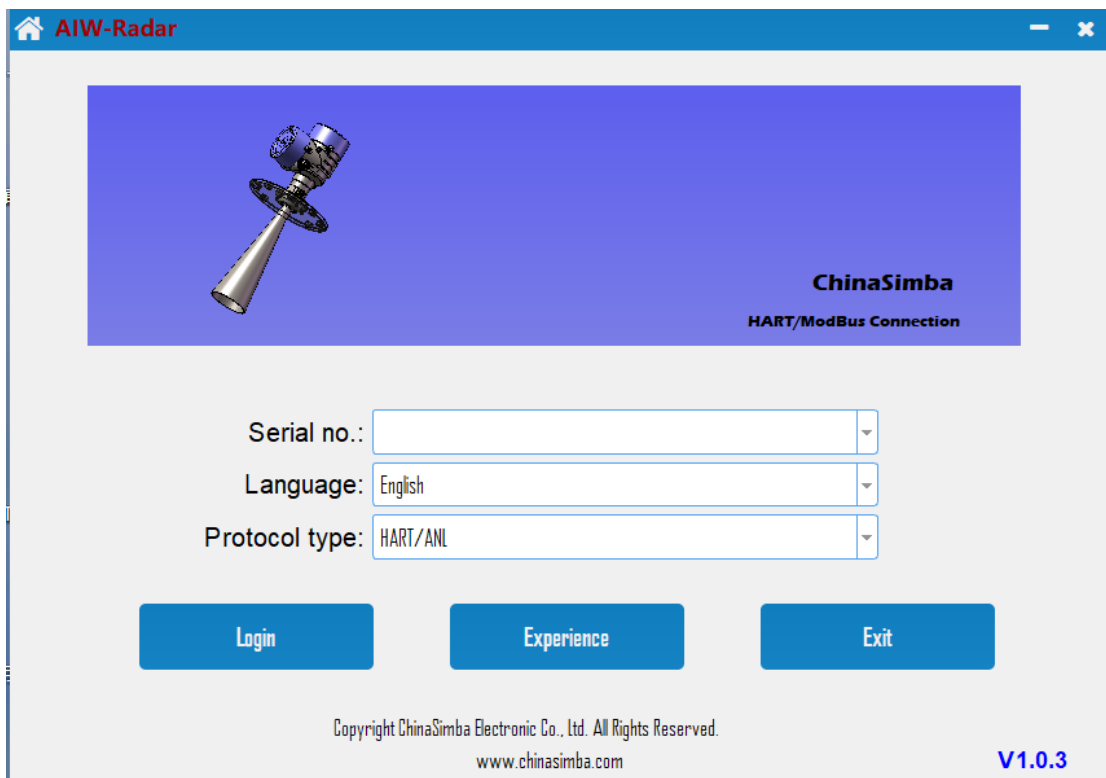

Figure 3.
3. If the serial number or communication protocol is selected incorrectly, the software will not be able to connect to the device. After the timeout, the login interface will be re-displayed. The handshake process is shown in Figure 3.